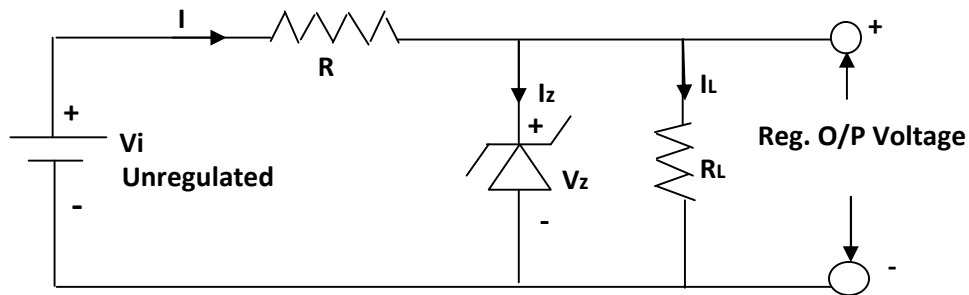

Fig 1:- Zener Diode Shunt Voltage Regulator
A Zener diode shunt regulator is shown in Fig 1. Since the Zener is connected in parallel (or shunt) with the load, the circuit is said to be a shunt regulator. A resistance (RS) is connected in a series to the zener Diode which limit the current in the circuit. Hence it is also known as series current limiting resistor. The output voltage VL is taken across the load resistance RL. Which is also the voltage across Zener diode. To observe the proper operation, the input voltage (Vi) must be greater